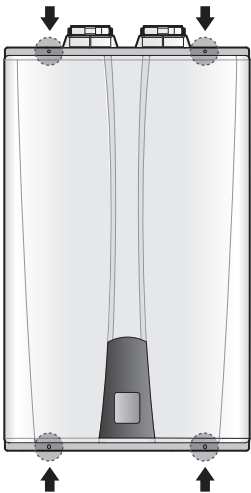

Figure 1. NPE Series Front cover
2. Using a Phillips hand screwdriver, remove 4 screws (2 from the top and 2 from the bottom) of the front cover assembly to gain access to the internal components. See Figure 1 for illustration of the front cover on the unit.